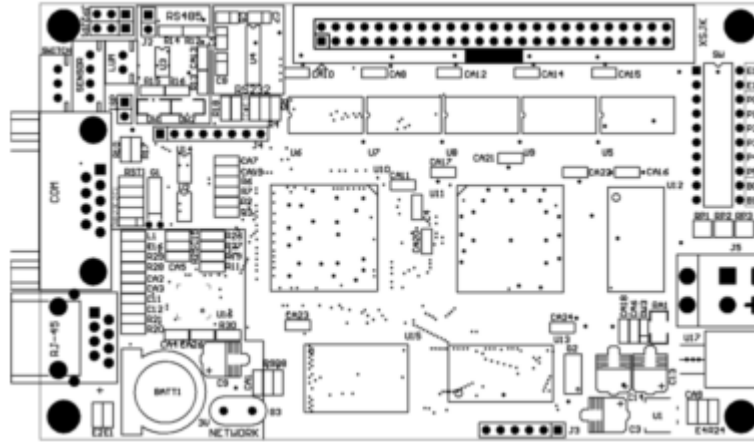

Figure 7-4
- ◆ 232/485 jump line for BX-C is in the top left of the controller( place the controller horizontally, 50 PIN interface is on the top) as shown in figure 7-4.